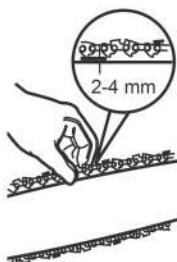

Fig. 15
- 1) Check the chain tension using one hand to lift the saw chain (C12) against the weight of the product. The correct chain tension is achieved when the saw chain can be lifted by approx. 2 - 4 mm from the guide bar (C13) in the centre (Fig. 15).